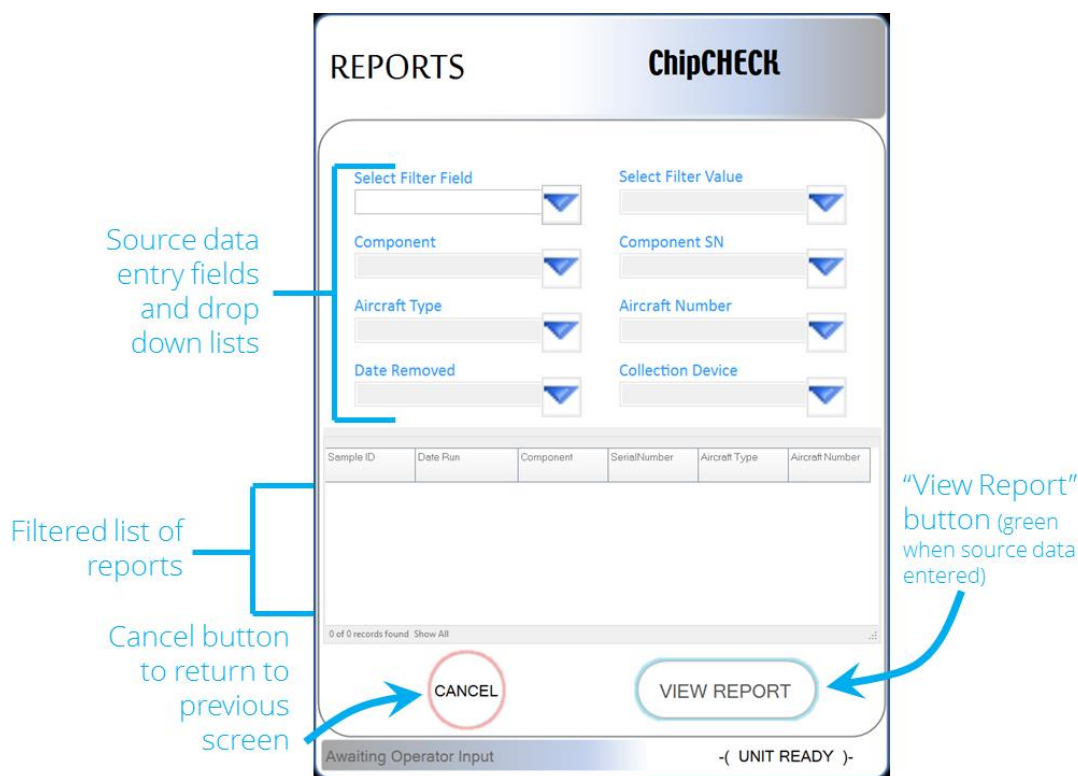

Figure 4-13: Reports Viewer Screen –Search &amp; Filter
**NOTE:** The data labels may be configured differently for different applications. As can be seen in Figure 4-13 below, the software interface now presents the User with the report search and filter tools. Various source data entry fields and drop down lists are available to the User. Select the desired source data to find the specific report related to a given analysis run. When data has been entered, filtered results will appear in the list below the entry fields. Select a report from this list, and the “View Report” button in the bottom right of the screen will highlight in green. Select the “View Report” button to view the report. The ‘Cancel’ button found in the bottom left of the screen will clear the filters on the first click, and return the User to the previous screen on the second click.